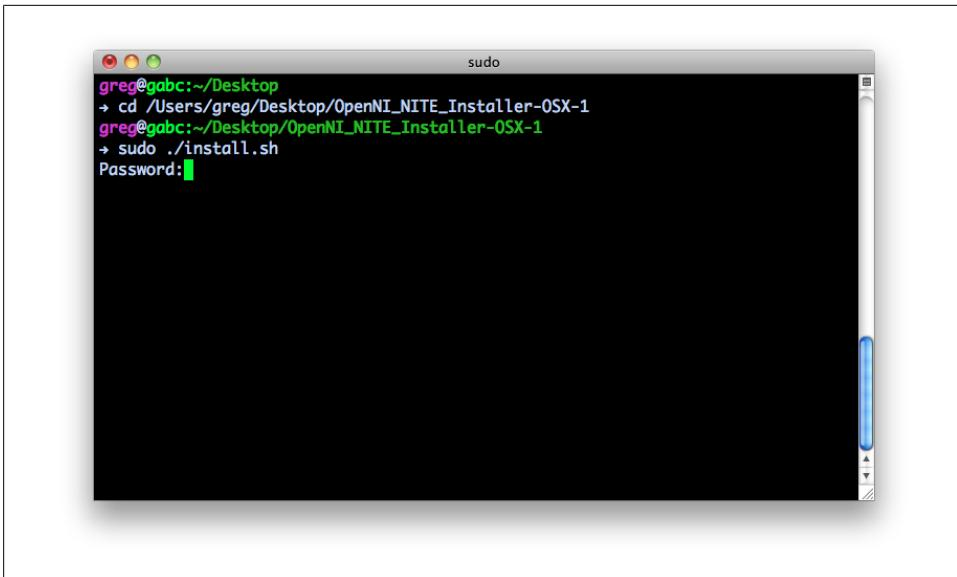

Figure 2-1. To install OpenNI on OS X, download the installer, unzip it, navigate to that directory, and run the install script as shown here.
- Change directory to the downloaded folder. To do this type "cd" (for change directory) followed by a space, and then drag the folder you just unzipped from the Finder into Terminal. This will paste the correct path to that folder into your prompt. Hit return. (Terminal commands for this and the next few steps can be seen in Figure 2-1)